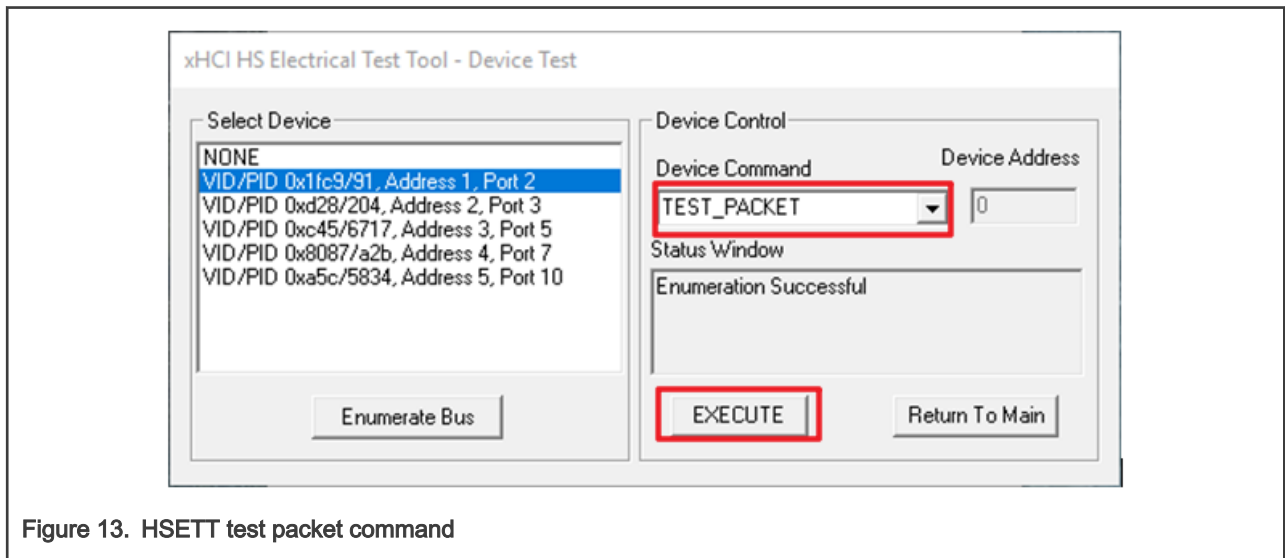

Figure 13. HSETT test packet command
8. Select **TEST\_PACKET** from the **Device Command** drop-down menu, as shown in Figure 13. Click **EXECUTE**. The device under test continuously transmits test packets.